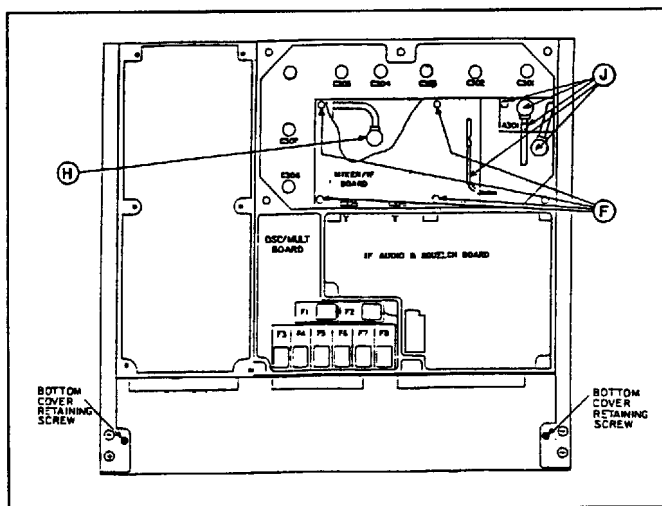

Figure 1 - Disassembly Procedure (Top View)
2. Remove the top cover, then loosen the two bottom cover retaining screws and remove the bottom cover (see Figure 1).